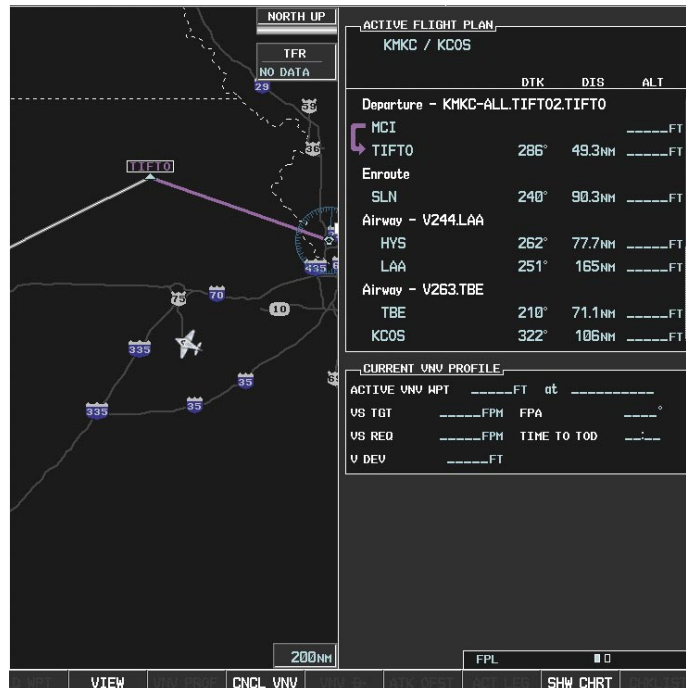

Figure 5-91 Assigned Heading of 290°
- 3) ATC now assigns routing to join V4. A heading of 290° is assigned to intercept V4. The aircraft turns to heading 290° as seen in Figure 5-91. Note the current CDI flight phase is now ENR (Enroute). When the aircraft reached 30 nautical miles from the departure point, the flight phase changed from TERM to ENR on the HSI and CDI scaling changed to 2.0 nm.